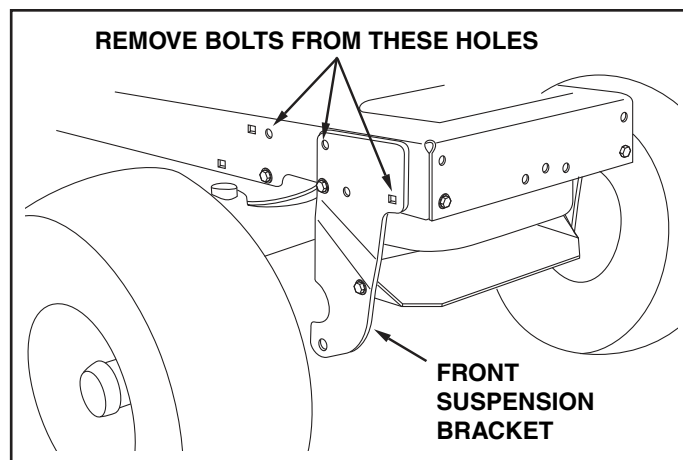

FIGURE 5
- Remove any bolts found in the holes indicated in figure 5.